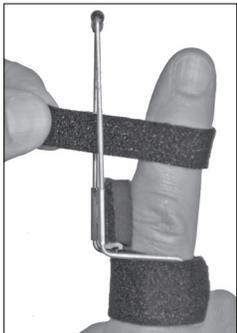

Fig 5
Step 4. Slide loop strap between the wires and slip the loop on the finger. Fig. 5.